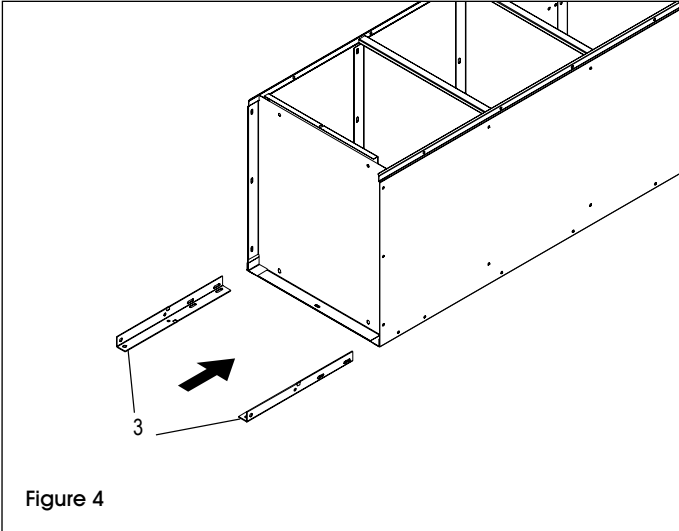

Figure 4
6. Insert legs (3) into the corner between the bottom and the side. Bolt the leg to the side using 2 bolts and nuts per leg. (See Figure 4)